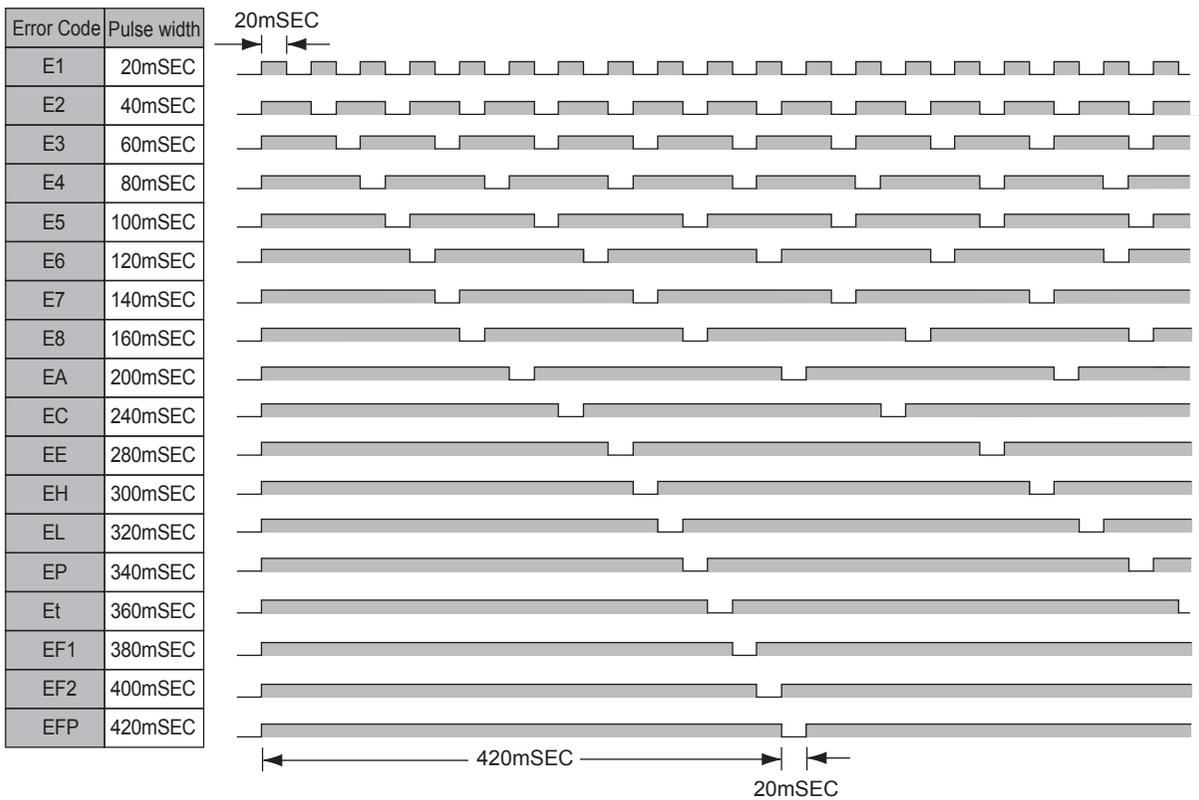

Fig. 38
When an error occurs, an error signal is output to the external Input / Output Connector A③ (terminal No. 8: ERR). (Refer to Fig. 38.)